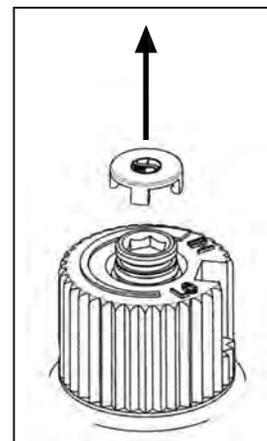

Figure 8: Removing valve cap.
a) Remove the black protection cap from the HI/LO knob by hand shown in Figure 8.
g) Re-attach the black protection cap that was removed in step a (Figure 8).